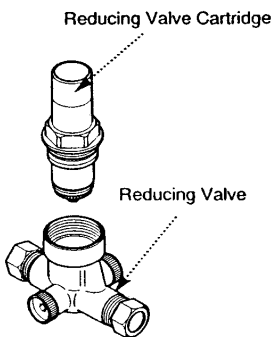

Fig. 70
**11.13 Pressure Reducing Valve Cartridge (Fig. 70)**